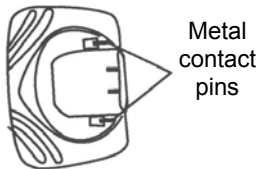
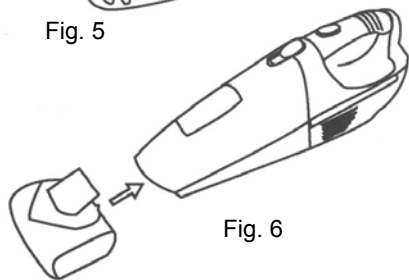

Fig. 5
Fig. 6
3. Firmly insert the motorized brush (Fig. 5) into the air-intake nozzle of the dust cup container ensuring that the contact pins are engaged in the connector slots of the unit. (Fig. 6)